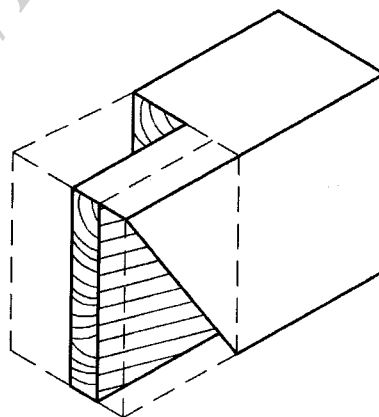

Figure 5
- (c) Figure 5 shows a part of a bridle mitre joint.